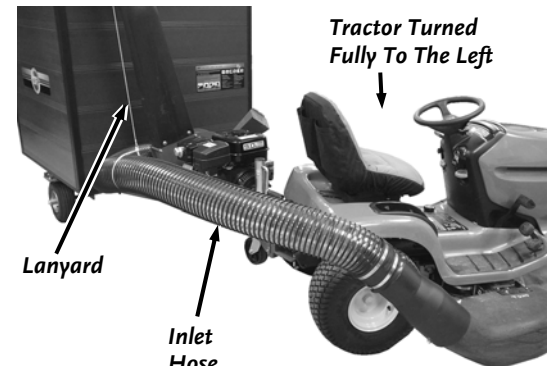

Figure 21
3. Turn the Tractor all the way to the left, while watching the Hose (**Figure 21**). The Hose should not become too taut to twist or damage your Lawn Deck Adapter.
**NOTE:** The Tractor must be turned fully to the left (**Figure 21**).